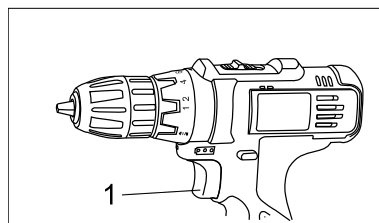

Fig 6
The screwdriver is equipped with an on / off button (1) with a stepless speed control. Slow rotation occurs when the button is pressed lightly and increases with a stronger push (Fig 6).